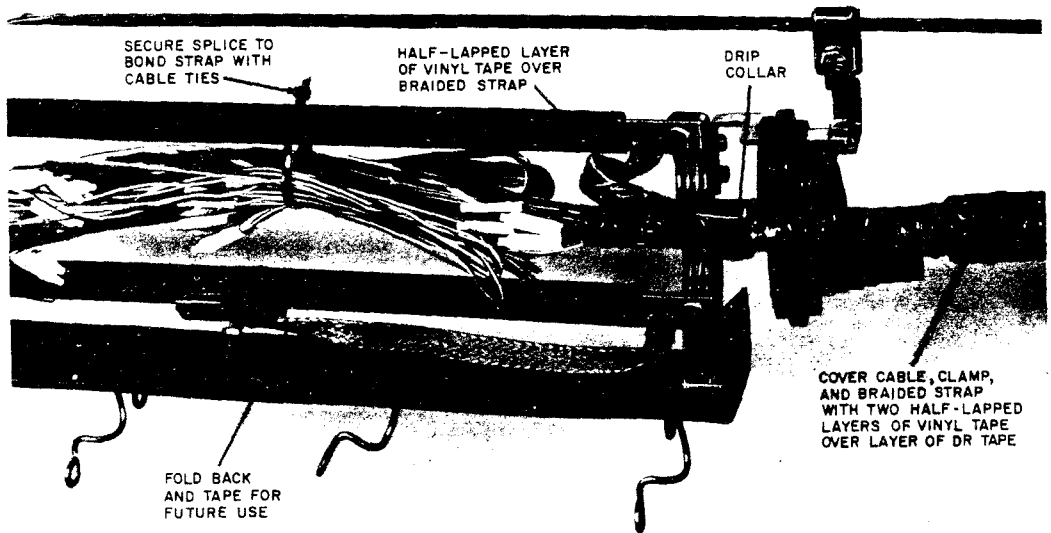

Fig. 6—Tape Applied and Drip Collars Formed
(7) Wrap braided strap with a half-lapped layer of vinyl tape. Apply layer of DR tape and two half-lapped layers of vinyl tape over cable, bond clamp, and braided strap. Form drip collars between sheath clamp and nipple (Fig. 6).